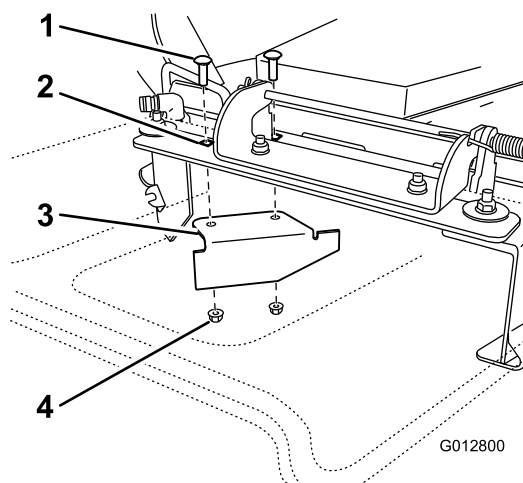

Figure 31
11. Locate the cutoff baffle in the loose parts bag and remove the fasteners at the rear holes of the discharge plate (Figure 31).